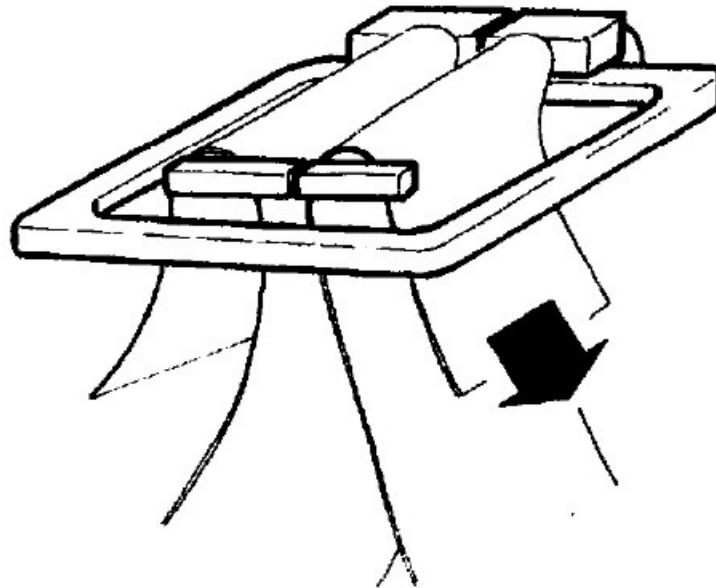

Figure 11, Plastic strap locking
- 1** Wrap the fiberglass around the boiler body and use the supplied strap to secure it (see Figure 11).